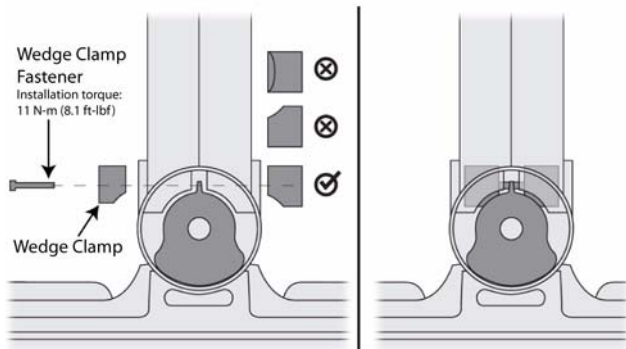

Figure 1-7: Install Wedge Clamps Curved Side Down
3. If wedge clamps are not installed, install each wedge clamp, curved side facing down and inserted in either side of LeanSteer frame base. See Figure 1-7.